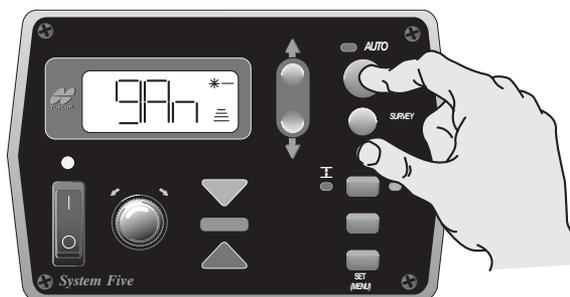

Figure 4-25. Selecting Gain Elevation
1. From the Performance Menu, press the Auto button to select Gain (Elevation) (Figure 4-25).